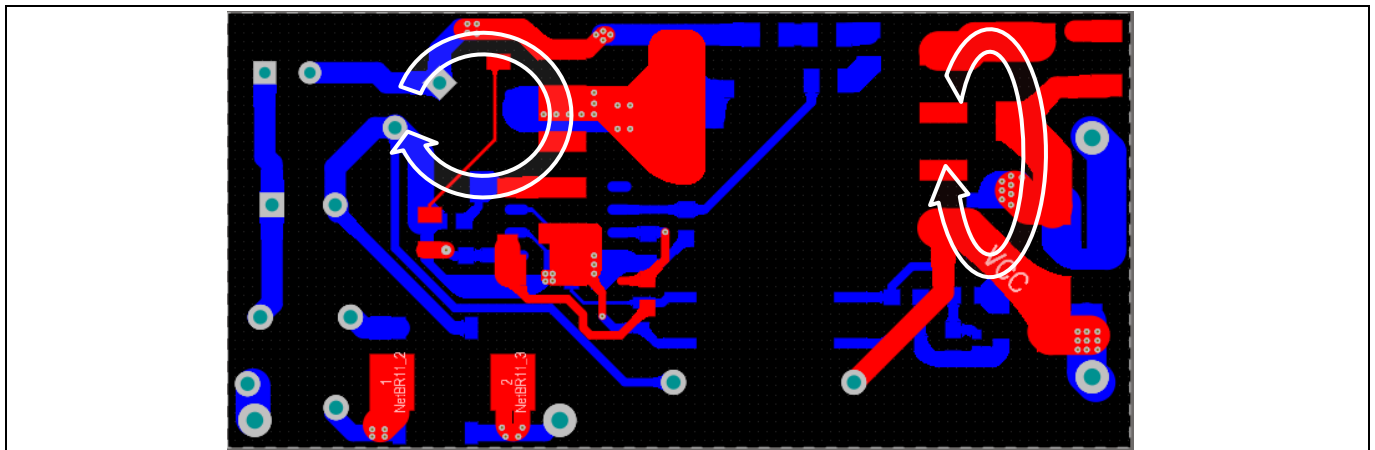

Figure 5 PCB layout tips
- The power loop needs to be as small as possible (see Figure 5). There are two power loops in the demo design; one from the primary side and one from the secondary side. For the primary side, it starts from the bulk capacitor (C13A) positive to the bulk capacitor negative. The power loop components include C13, the main primary transformer winding (pin 1 and pin 2 of TR1), the drain pin and the CS pin of the CoolSET™ IC11 and CS resistor. For the secondary side, the 5 V output starts from the secondary transformer windings (pin 9 of TR1), output diode D21 and output capacitors C22, L21 and C24.
- Separating the HV components and LV components, e.g.  $V_{BUS}$  and CoolSET™ drain at the top part of the PCB (see Figure 5) and the other LV components at the lower part of the PCB, can reduce the spark-over chance of the high-energy surge during ESD or a lightning surge test.